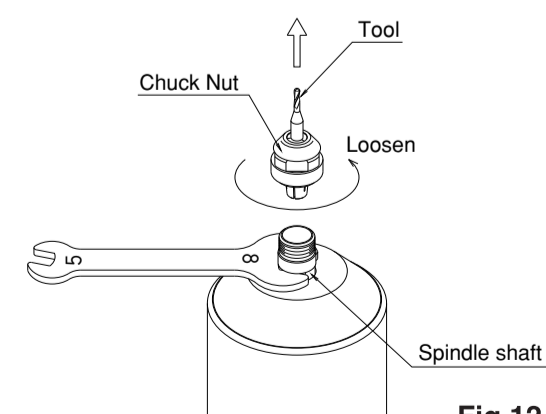

Fig.12
- The chuck nut is loosened together with the tool according to the "4.Replacement of Tools" procedure above. And unscrew the chuck nut and remove the collet and chuck nut. Then remove the tool from the chuck. (Fig.12)